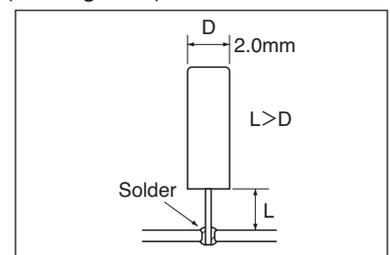

Figure 7
(2) Always leave a length greater than 2.0mm when bending a lead after soldering (see Figure 7).